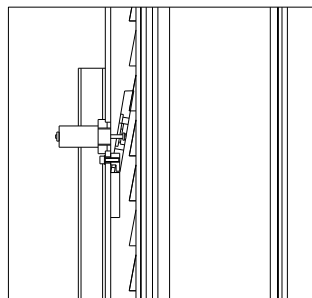

Fig.19
6. If the hydraulic cylinder breaks, the safety wedges will trip (fig.19), located inside the posts. The wedges are pushed by the spring and immediately stop the carriage preventing their descent.